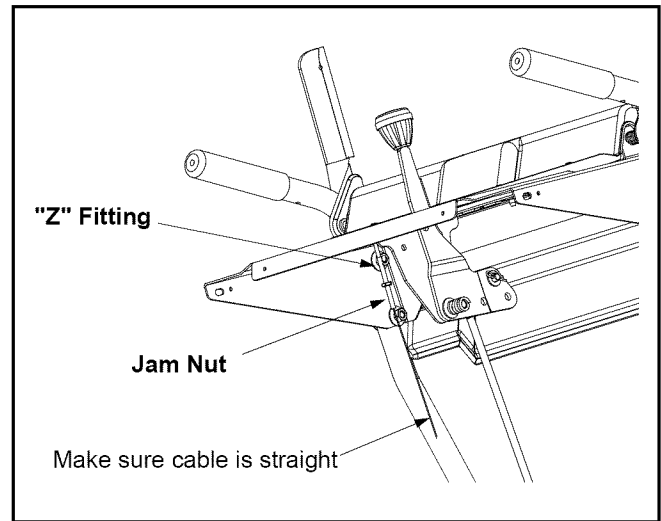

Figure 16
- Retighten the hex jam nut. See Figure 16.